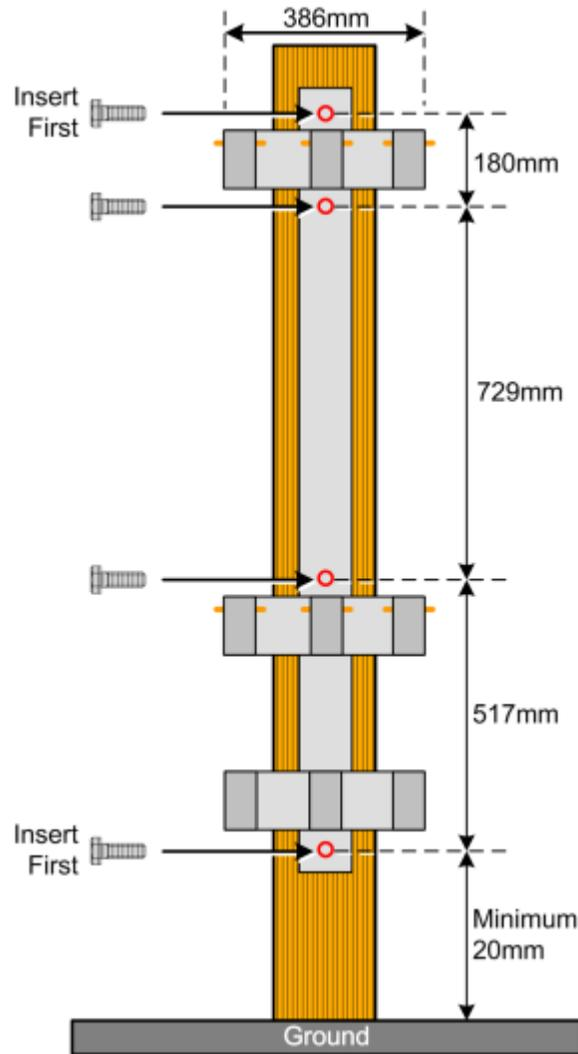

Figure 3-19. Mounting the Bracket
3. Referring to Figure 3-19, mount the wooden pole bracket according to the following steps:
- Drill four holes in the pole according to the distances shown in Figure 3-19.